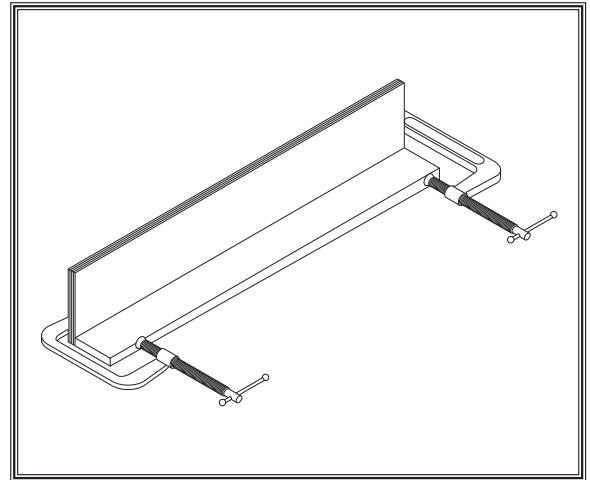

Figure 53. Clamping the resawing barrier.
3. Glue the end of the 3" board, then clamp the boards at a 90° angle with the larger board in the vertical position as shown in **Figure 53**.